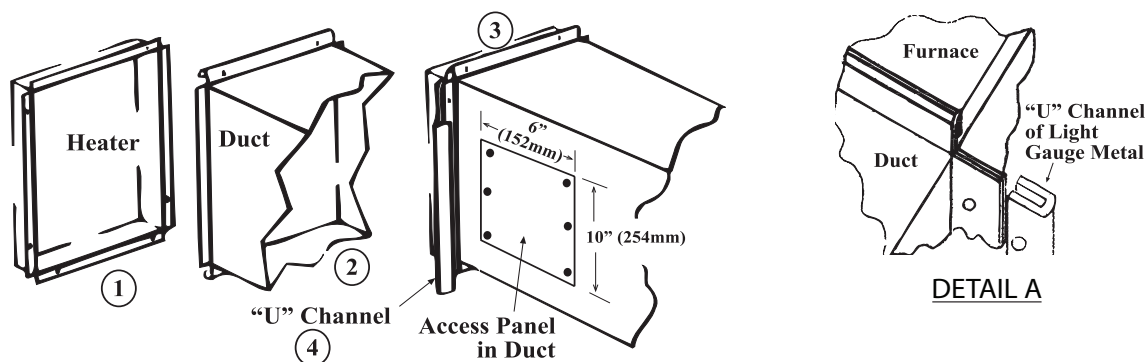

Figure 6. Connecting Ductwork to Furnace
- **Supply air duct/furnace horizontal connection:** The seal between the furnace and the duct must be mechanical using U-type flanges on the top and bottom of the connecting duct to ensure tight joints and an airtight fit. Refer to **Figure 6** and perform the following steps:
- **Access panels:** Install removable access panels (see **Figure 6**) on both the upstream and downstream sides of the furnace. The access panels must be accessible when the furnace is in service and should be a minimum of 6 × 10 inches (152 × 254 mm) in size so smoke or reflected light may be observed inside the casing to indicate the presence of leaks in the heat exchanger. Ensure that the access panels are installed in such a manner so as to prevent leakage.